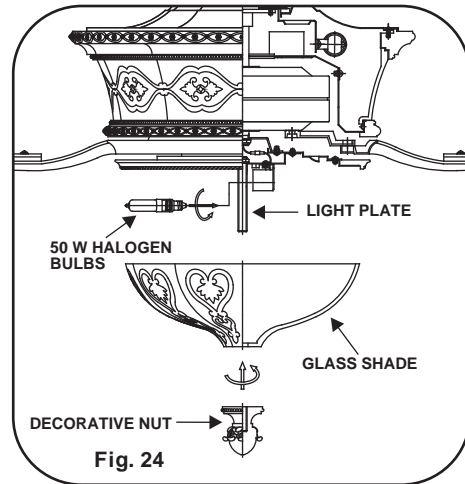

Fig. 24
1. Install 2x50W halogen (included) bulbs into bulb sockets. (Fig. 24)
2. Place the glass shade over the light plate stem and secure tightly with the decorative nut. **DO NOT OVERTIGHTEN.** (Fig. 24)